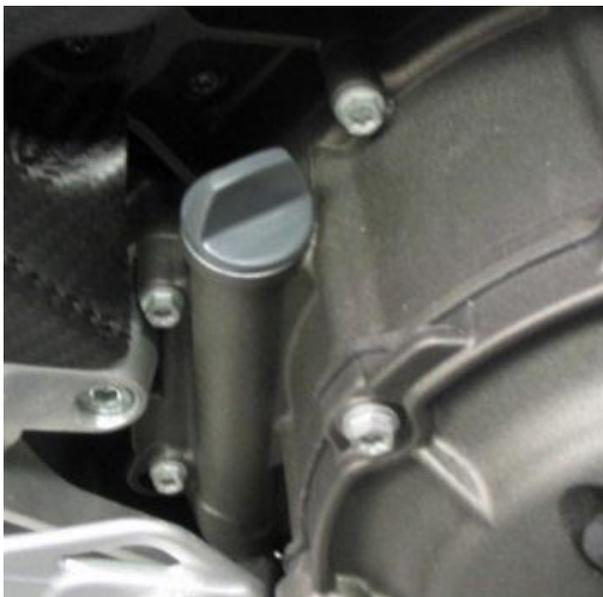

Figure 46. filler plug:
3. Idle the engine one (1) minute. Shut off the engine and set motorcycle UPRIGHT.
4. Remove the oil fill plug. See figure 46.
2. See figure 46. Unscrew and remove fill plug from oil fill hole. Replace O-ring if torn or damaged.